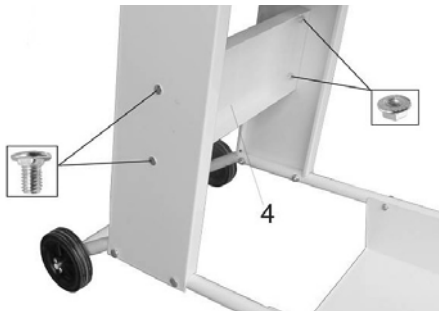

Fig. 5: Mounting side panels
Step 3: Screw the cross plate (4, Fig.5) tight with the M8x10 square head screws.